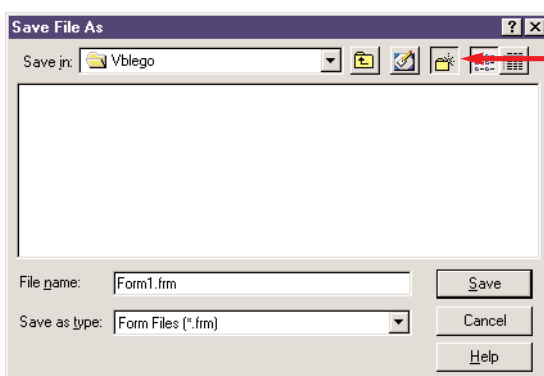

Figure 1.4
- Click on the *Create New Folder* button (Figure 1.4).